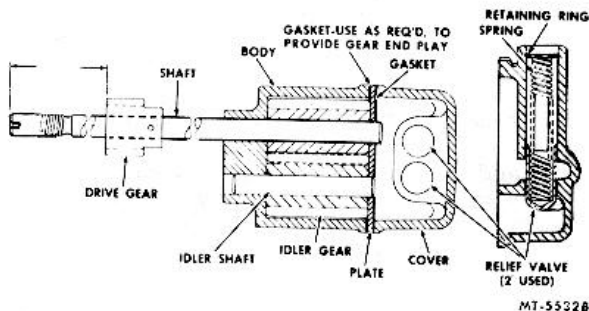

Fig. 143 Sectional View of Oil Pump Assembly
11. When installing oil pump drive gear on shaft, gear should be pressed on to a 7.3 cm (2-7/8") dimension from top of gear to end of shaft (Figure 143).